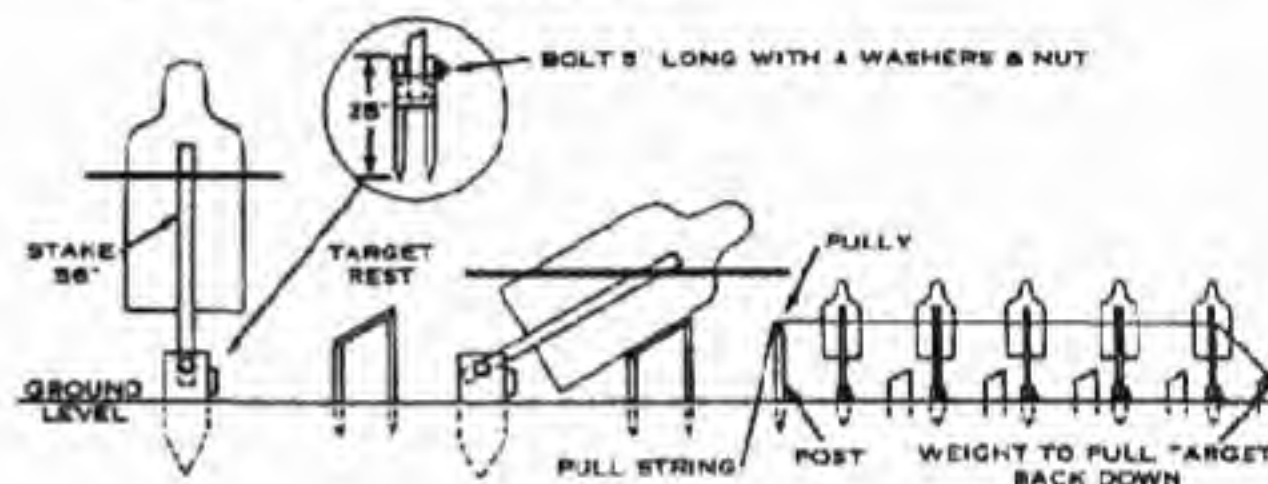

Figure 8
- Side Pop-up Target (Figure 8)